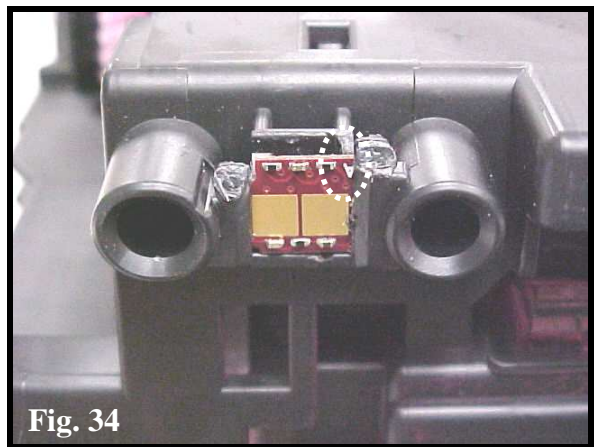

Fig. 34
34. Be sure to insert the replacement chip with the letter on the chip located on the upper right hand corner of the chip housing (Fig. 34). Add a small drop of silicone to the back of the chip to adhere it to the chip housing.